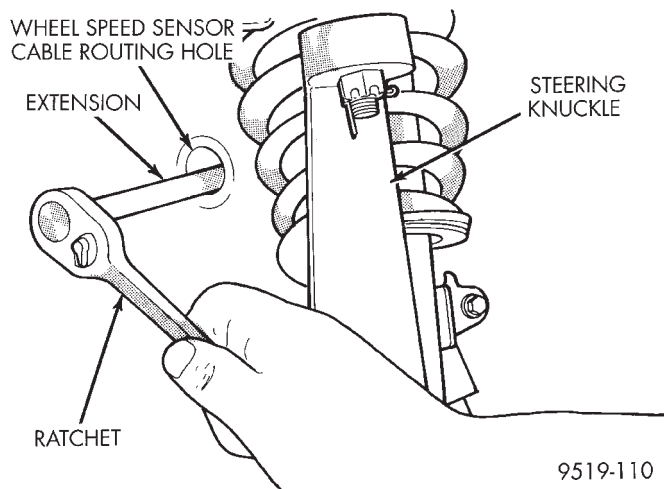
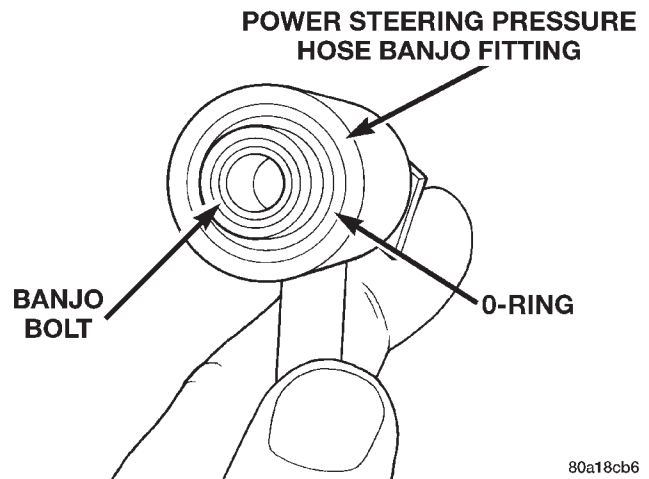

Fig. 31 Access To Top Mounting Bolt For Power Steering Pump
Fig. 32 O-Ring Installed On Power Steering Hose Banjo Fitting
(13) Remove bolt attaching top of power steering pump front bracket to the cast aluminum mounting bracket. Access to the top bolt is through the wheel speed sensor cable routing hole (Fig. 31). To access the bolt use a long extension and a 15 mm flex socket.
(4) Loosely install bolt attaching top of power steering pump front bracket to the cast aluminum accessory drive bracket. Access to install the bolt is through the wheel speed sensor cable routing hole (Fig. 31).
(5) Using a lint free towel, wipe clean all open power steering hose ends, and power steering pump fittings.
(6) Install a new O-ring on the end of power steering pressure hose banjo fitting (Fig. 32).
(10) Install power steering pump drive belt on power steering pump pulley.
(11) Install a 1/2 in. breaker bar in the square adjusting hole in the front power steering pump mounting bracket (Fig. 34). Then using breaker bar rotate power steering pump to obtain the correct drive belt tension. See Accessory Drive Belts in Group 7 Cooling System of this service manual for the correct drive belt tension specification. When correct drive belt tension is obtained first tighten the bottom 2 adjusting slot bolts at the power steering pump cast mounting bracket to a torque of 54 N·m (40 ft. lbs.). Then tighten the power steering pump mounting bracket top pivot bolt to a torque of 54 N·m (40 ft. lbs.). Access to tighten and torque the bolt is through the wheel speed sensor cable routing hole (Fig. 31).